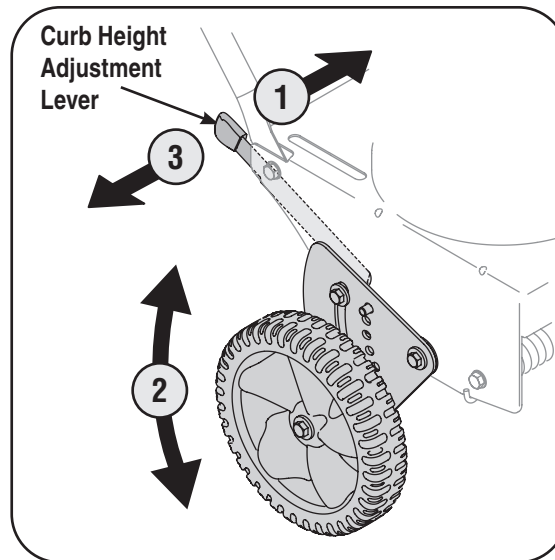

Figure 5-2
1. Lower the right, rear wheel by moving the curb height adjustment lever slightly to the left. See Fig. 5-2.
2. Pivot the right, rear wheel into an applicable position in relation to the height of the curb to be edged along. See Fig. 5-2
3. Release the curb height adjustment lever to lock the wheel in position. See Fig. 5-2.